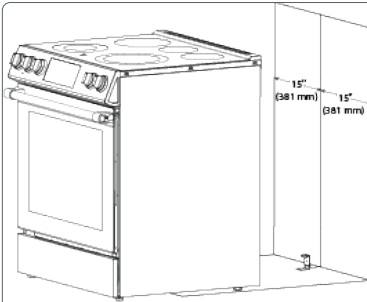

Figure 1
2. Fix the part2 of the bracket to the floor with 4 screws (5) in accordance with the dimensions and direction indicated in Figure 1.
3. Mount the bracket to the wall as mentioned in Figure 1. (Try to center bracket while mounting.) Distance (B) from the bottom of the bracket to the floor should be equal to the formula in Figure 1 (Formula is $B=A-2,3"$).